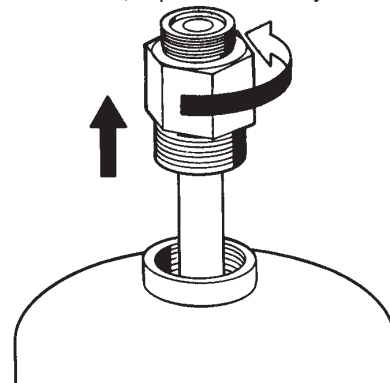

FIGURE 8-3
- ▶ evidence of corrosion, replace assembly. See Figure 8-3.